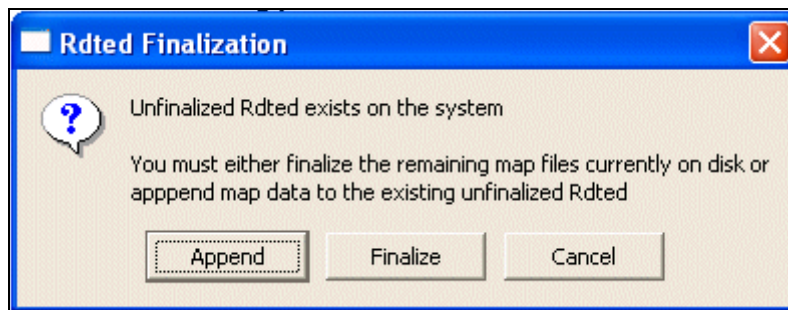

Fig. 43 — RDTED Finalization window
- b. If unfinalized RDTED exists on MMCPC and the user wishes to keep partial RDTED map files and finalize, click Process, then RDTED, then Finalize (Fig. 43).
- d. If unfinalized RDTED exists on MMCPC and the user wishes to process more DTED data, click Process, then RDTED, then Append (Fig. 43). Verify the Finalize Automatically button is selected when processing the last set of DTED data.